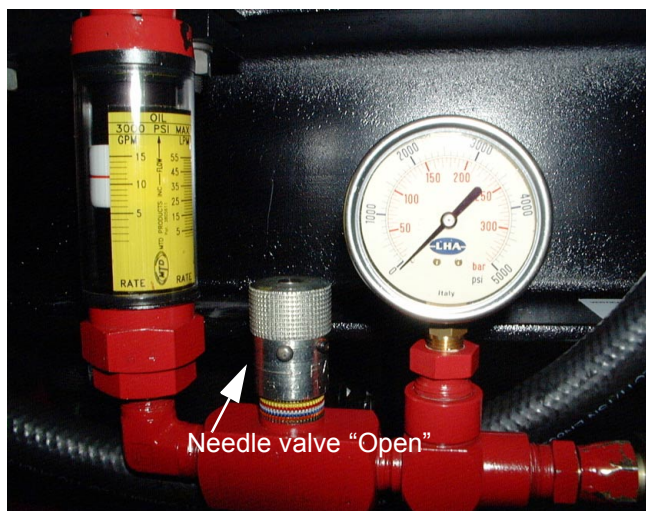

Figure 1
1. Make certain the needle valve is fully open. \_\_\_\_ See Figure 1.